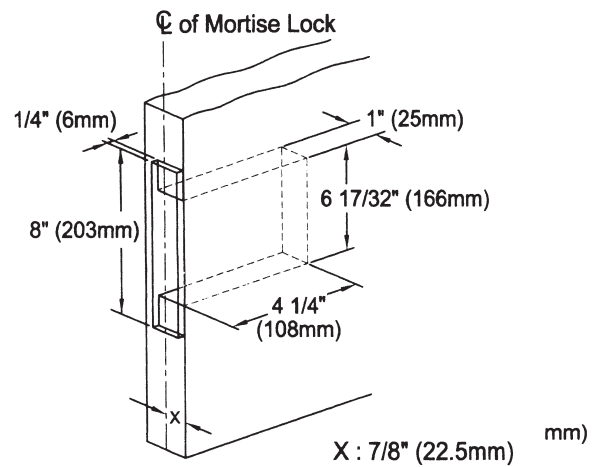

Figure 1-3
4. For thicker door use, if it is over 1-3/4" (44.5 mm) thickness, mark a vertical center line of the lock case on the door edge and be sure to keep 7/8" (22.5 mm) distance between the vertical center line and door edge of push side of the door (see Figure 1-3).